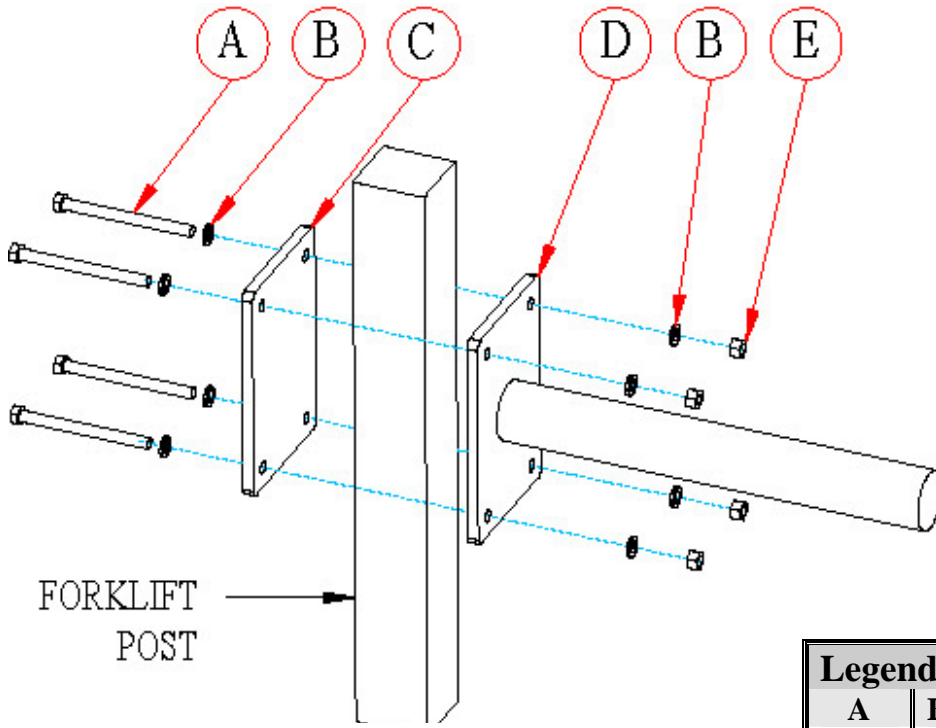

Figure 2.
**Step 2.1: Install Cantilever Mount to Forklift Post:** Place Screw (A) through Split/Lock Washer (B), Backing Plate (C), Cantilever Cylinder (D), through Split/Lock Washer (B), and affix with Nut (E). Four places (see Figure 2).